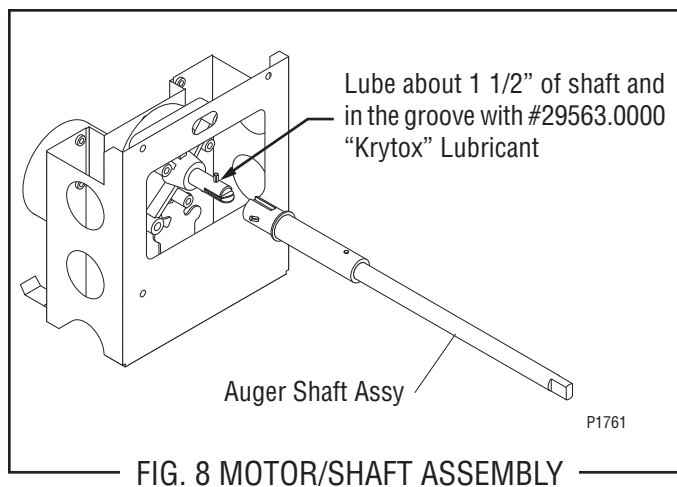

FIG. 8 MOTOR/SHAFT ASSEMBLY
13. Place a small amount of #29563.0000 "Krytox" lubricant (provided in kit in a plastic cap) on the end of the motor shaft (about 1 1/2") and a thin film in the groove. Install auger shaft assembly onto the motor shaft. See Fig. 8. Do not use too much "Krytox" lubricant.
14. Assemble motor/shaft assembly as shown in Fig. 8, then install assembly into cooling drum. Make sure the pins do not hit the sensor board and cooling drum seal is not dislodged as the shaft passes through.